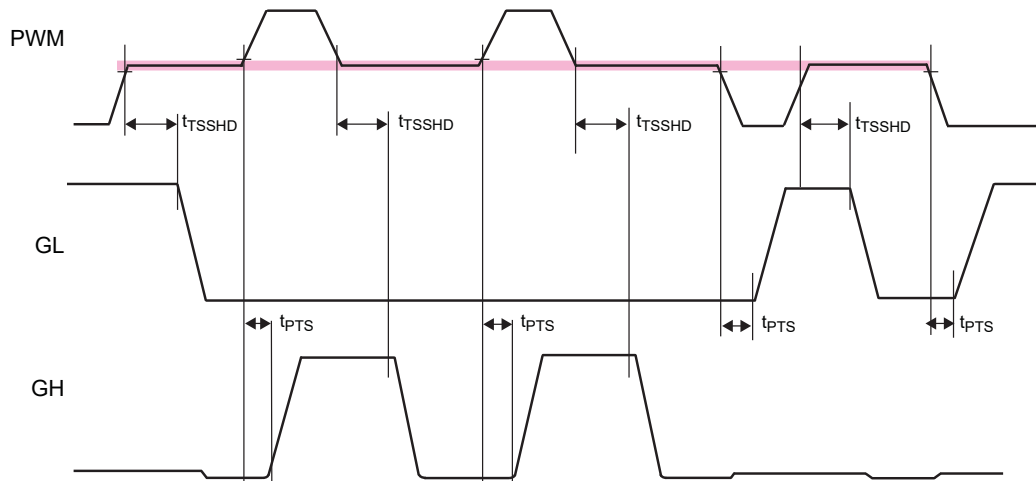

Figure 2. Tri-State Input Logic Timing Diagram
The PWM is also a tri-state compatible input. When the input is high impedance or unconnected both the gate drives will be off and the gates are held active low. The PWM Threshold Table in Table 1 lists the thresholds for high and low level transitions as well as tri-state operation. As shown in Fig. 2, there is a hold off delay between the corresponding gate drive is pulled low. This delay is typically 150ns and intended to prevent spurious triggering of the tri-state mode which may be caused either by noise induced glitches in the PWM waveform or slow rise and fall times.
**Note:** See Figure 2 for propagation delays and tri-state window.